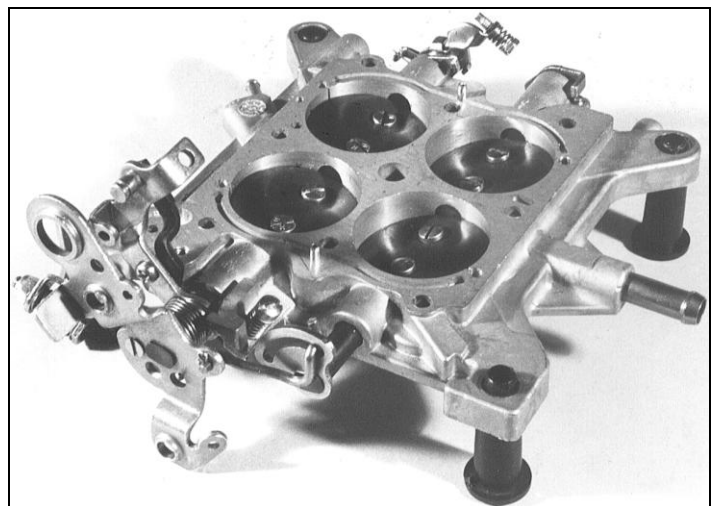

FIGURE 2
1. Place the throttle body on a carburetor stand. See Figure 2.